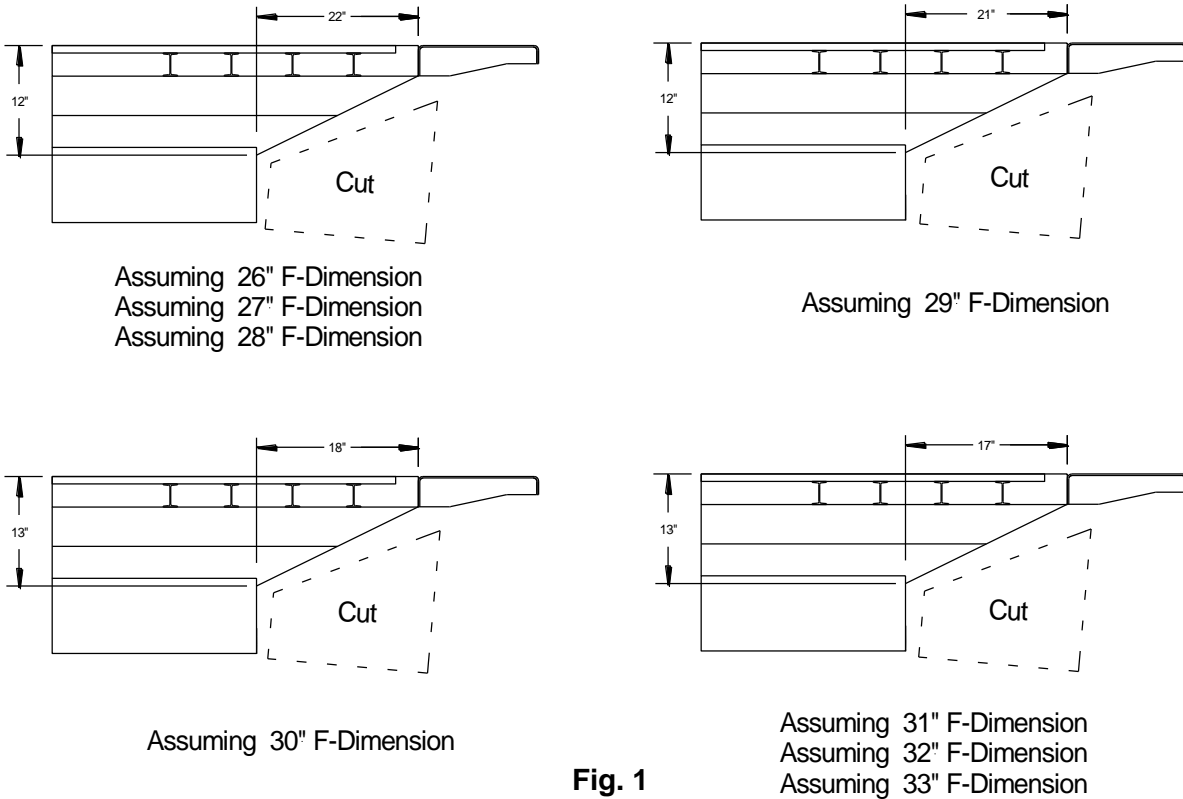

Fig. 1
- Determine the correct frame cut out according to your specific bed height. With long overhangs it is even more important to maintain min F = Max ground clearance, **Fig. 1**.